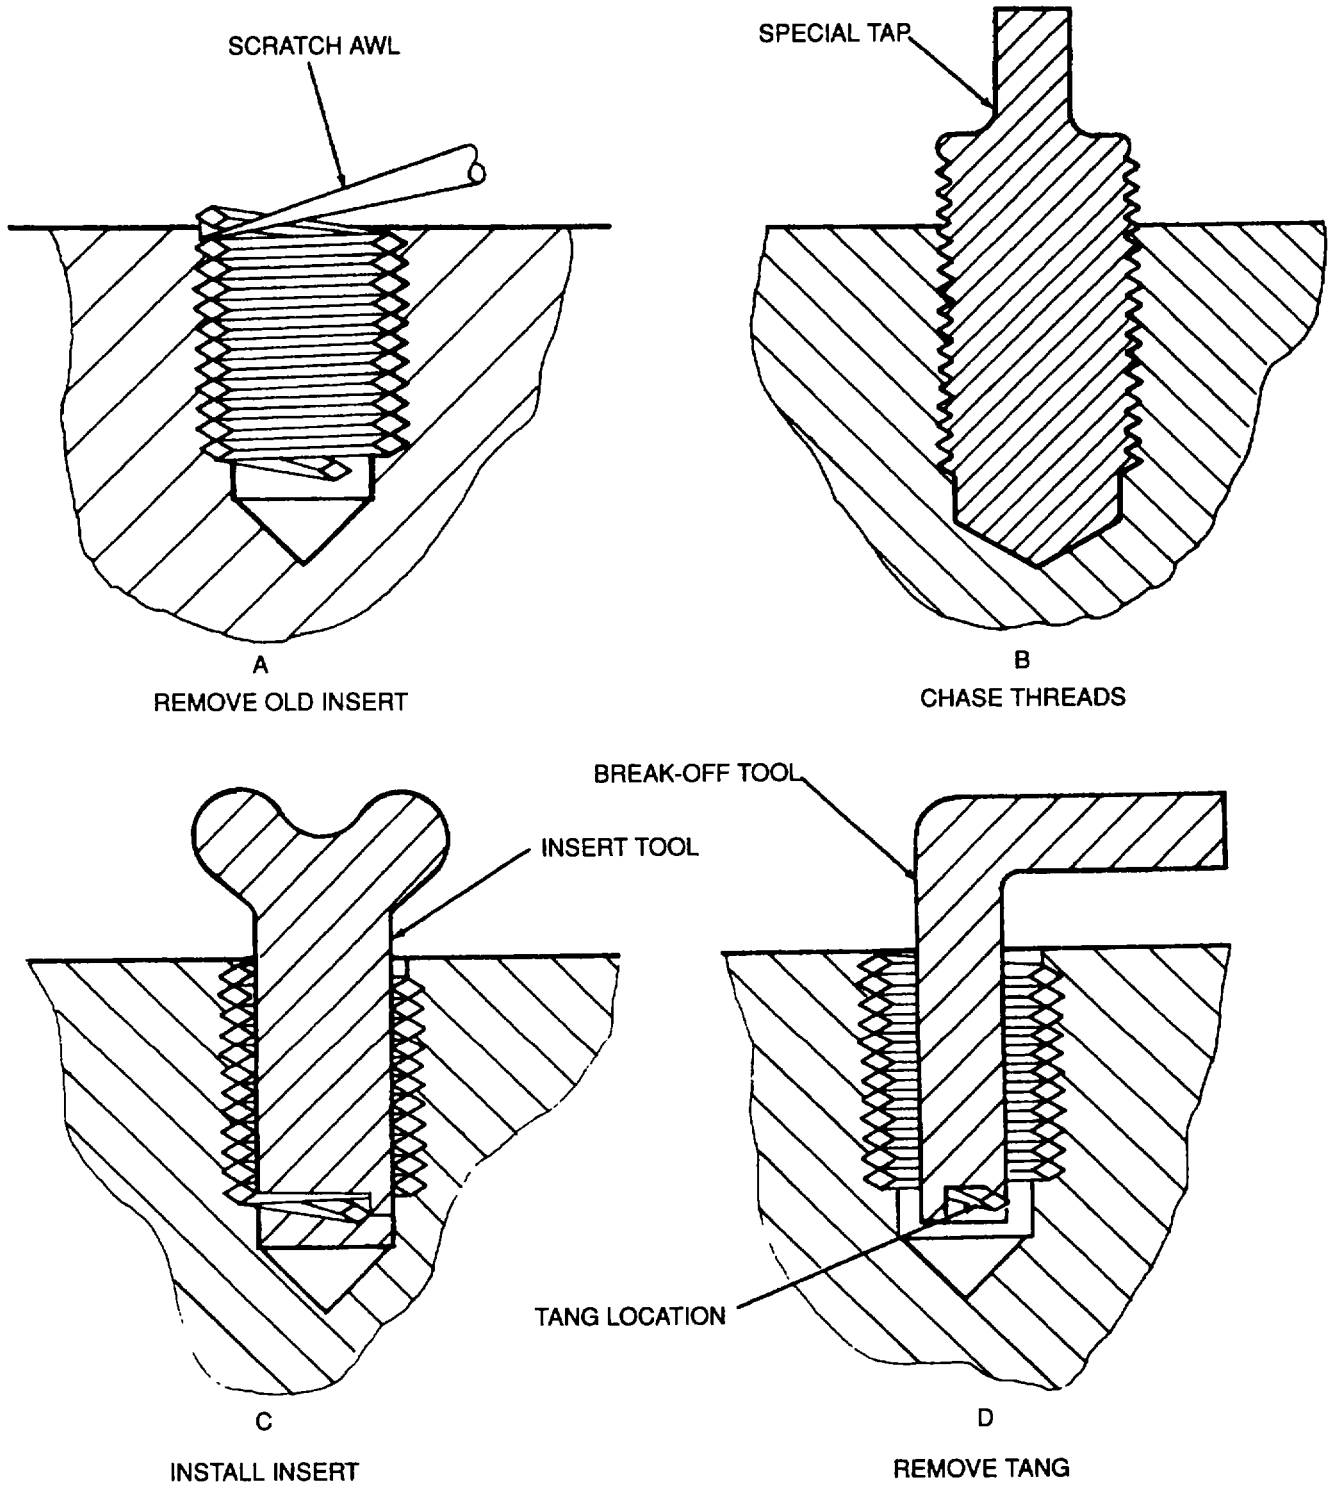

Figure 2-1. Removing and Installing Helical Coil Thread Inserts
- a. Using a sharp scratch-awl, lift the end of the insert, and remove it using needle nose pliers (A, Figure 2-1).
- b. Using special insert tap of the proper size as listed in MS-33537 (Standard Dimensions for Insert, Screw Thread, Helical Coil, Coarse and Fine Thread), repair any thread damage caused by removal (B, Figure 2-1).
- c. Using the installing tool, screw in the new insert to a depth of 3/4 to 1 1/2 threads below the edge of the hole (C, Figure 2-1).
- d. Using the break off tool, remove the driving tang form the insert (D, Figure 2-1).